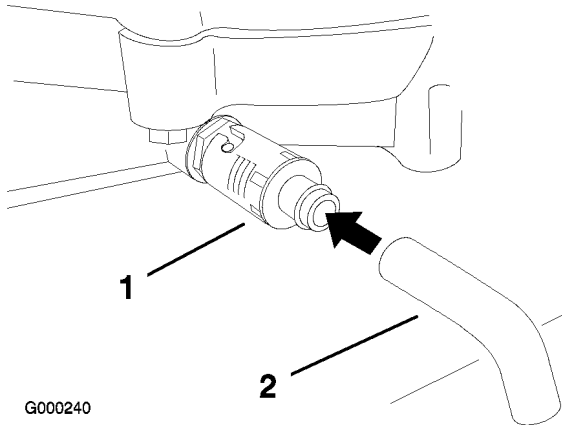

Figure 37
6. Place a pan below the drain hose. Rotate oil drain valve to allow oil to drain (Figure 37).
8. Remove the drain hose (Figure 37).